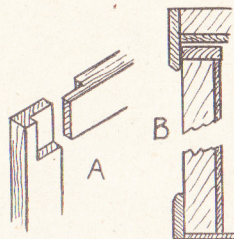

Fig. 2—Detail of joints
(2)—2ft. 6ins. by 11ins.; (2)—1ft. 3ins. by 11ins.; (2)—2ft. 6ins. by 1ft. 5ins.
ends of the joints and cover the board lining. A plinth of $\frac{1}{4}$ in. by $1\frac{1}{2}$ in. wood is also glued and nailed along the bottom, both these being shown at (B) in Fig. 2. The upper edges of the plinth should be bevelled off, it looks better so, improving the appearance quite a lot.
A lid for the chest can be made of framed up wood, as for the rest. Make it the same dimensions, rather on the full size, and cover on the inside with the plywood board. To the edges of this glue and nail a $\frac{1}{4}$ in. by $1\frac{1}{2}$ in. rim all round, as seen in detail (B) Fig. 2. Bevel the bottom outside edges of this to match the plinth below.